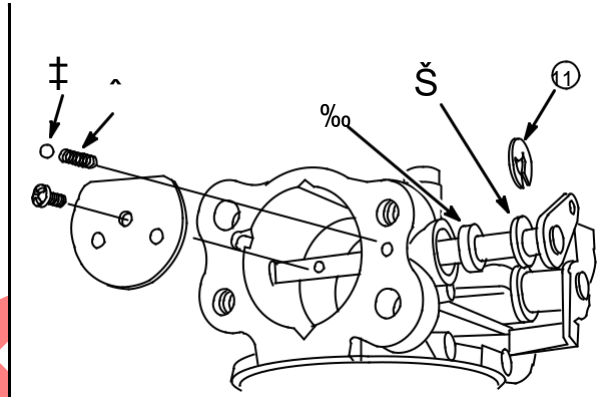

Fig. 35
Install new "E" ring (11), washer (10) and felt seal (9) onto choke shaft, **Fig. 35**.
Install choke plate as shown, **Fig. 35**.